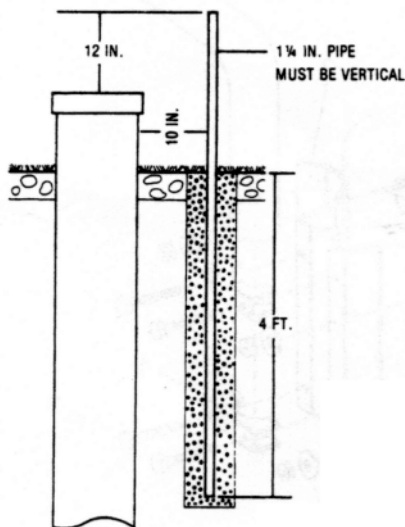

Figure 2
1. Locate the pipe as shown in Figure 2.